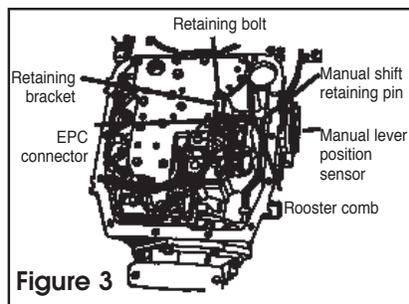

Figure 3
**1. To Remove:** Remove two 8 mm bolts retaining manual lever position sensor (MLPS) to case. Remove MLPS from manual shaft (Figure 3).